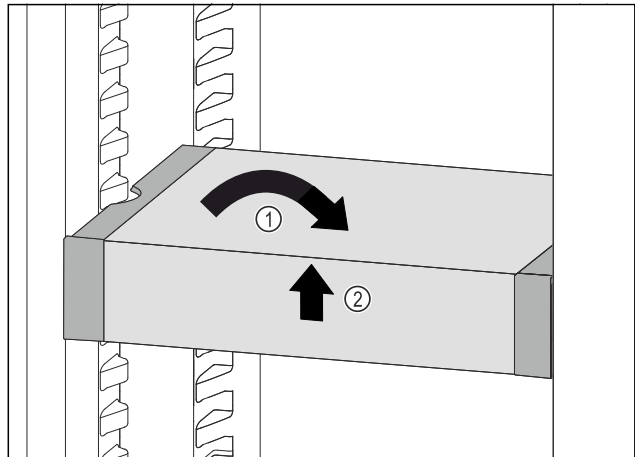

Fig. 134
- ▶ Set VarioSafe straight. Fig. 134 (1)
- ▶ Lift VarioSafe at the front. Fig. 134 (2)